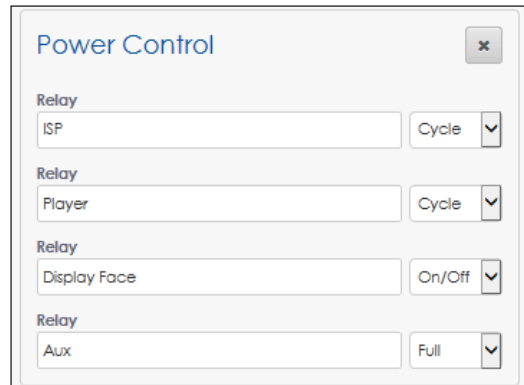

Figure 67: Peripherals - Power Control
There are four standard power control relays. To configure these relays, follow the instructions below while referring to **Figure 67**.
1. Type a descriptive name for the power control relay in the **Relay** field. The example in **Figure 67** shows four relay names typically used in a standard billboard display.